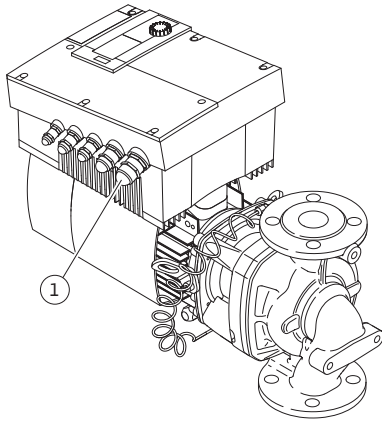

Fig. 25: NPT^{3/4} " threaded cable connection
- The electrical connection must be established via a fixed power cable which has a plug attachment or an all-pole switch with a contact opening width of at least $\frac{1}{8}$ " (3 mm). Use 140/167 °F (60/75 °C) copper conductors only. The power cable is to be fed through the NPT^{3/4} " threaded cable connection (Fig. 25, Item 1). Cross-section of power cable to be maintained: